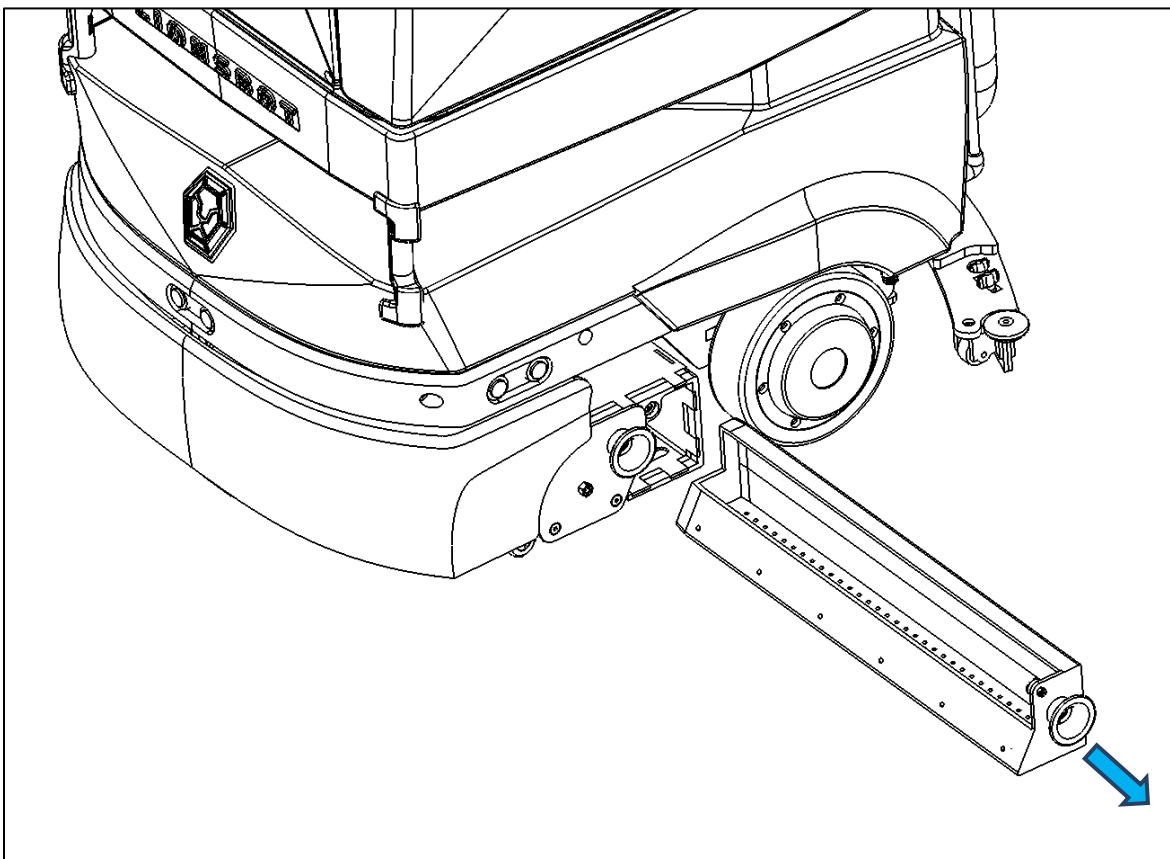

Fig. 1
1. Pull the debris tray knob to release it from the magnetic catch (Fig. 1).